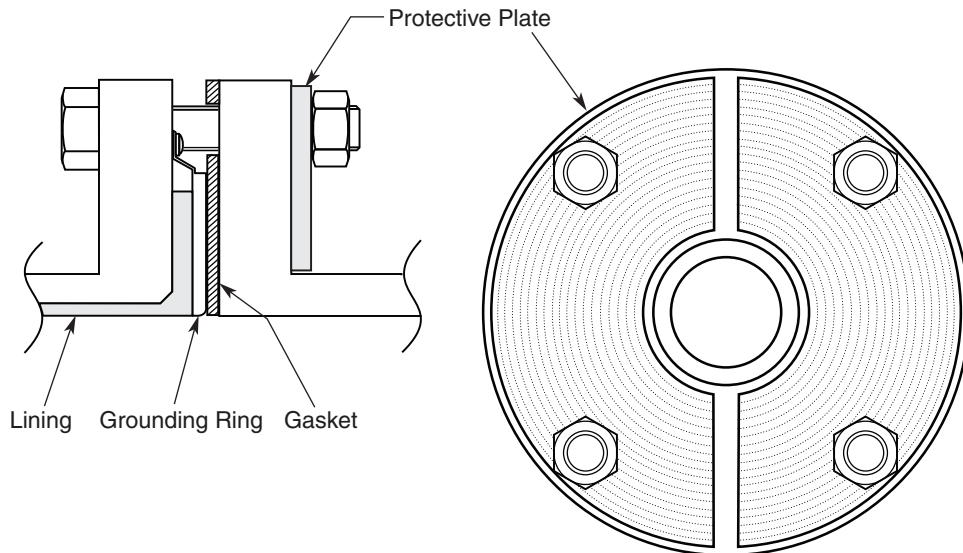

Figure 30. Installation on PVC Pipe with 316 ss Grounding Ring (with Protective Plate)
2. Use this method to install the flowtube using a protective plate to prevent PVC pipe from being deformed or damaged when the bolts are tightened to the specified torque. Install the protective plate between the outer side of the PVC flange and the flowtube, as shown in Figure 30. The protective plate protects the PVC pipe from deformation or damage when secured at the specified torque. The torque level is unrelated to the pipe or grounding ring material. See Table 6 for the appropriate torque. For the internal diameters of the gaskets, see Table 7.